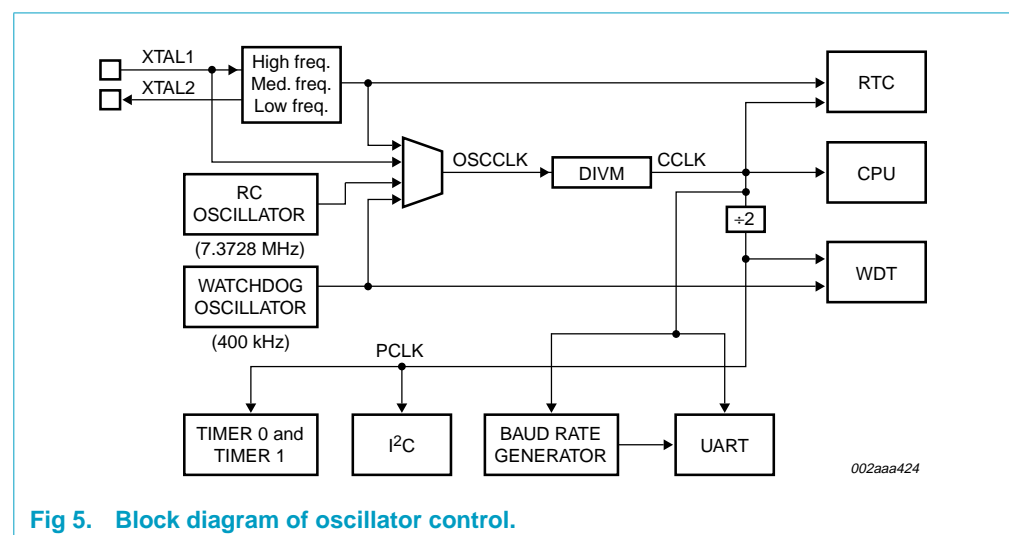

Fig 5. Block diagram of oscillator control.
**OSCCLK** — Input to the DIVM clock divider. OSCCLK is selected from one of four clock sources (see Figure 5) and can also be optionally divided to a slower frequency (see Section 8.7 “CPU Clock \(CCLK\) modification: DIVM register”).